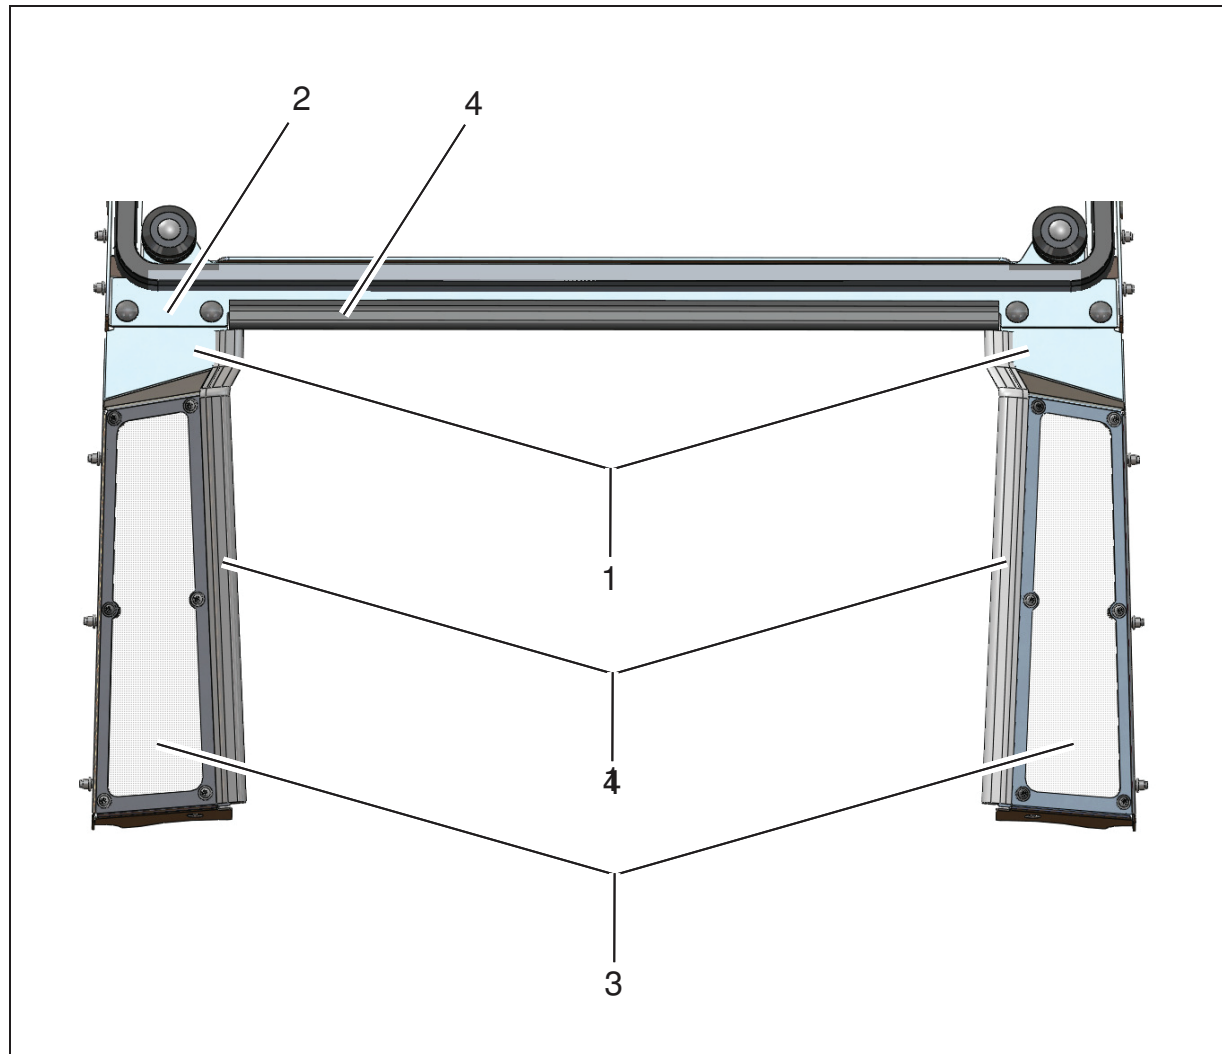

Fig. 4
- Assemble the left and right-hand frames (Fig. 4/1) for the perspex in the door frames of the cab safety roof.
- Assemble the crossbar (Fig. 4/2) on the perspex pane frames.
- Install the left and right-hand perspex panes (Fig. 4/3).
- Mount the edge protection (Fig. 4/4) on the frames for the perspex panes and on the crossbar.